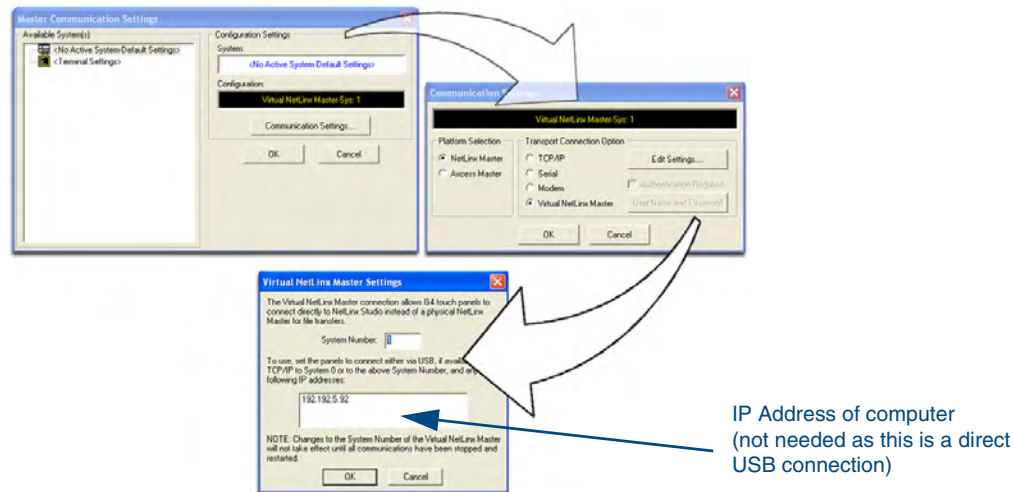

FIG. 28 Assigning Communication Settings for a Virtual Master
2. In NetLinx Studio, select **Settings > Master Communication Settings**, from the Main menu to open the Master Communication Settings dialog (FIG. 28).
6. Click the **Edit Settings** button to open the *Virtual NetLine Master Settings* dialog (FIG. 28).